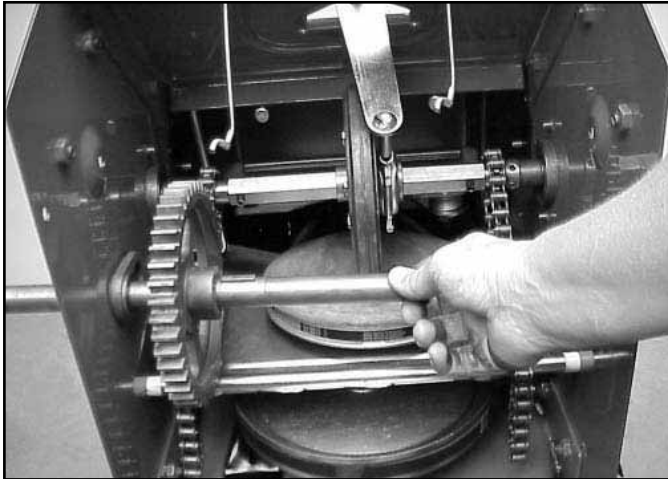

Fig 130 MVC-860XYZ.jpg
14. Now you can remove the other half of the axle shaft with the 44-tooth gear (Fig. 130).